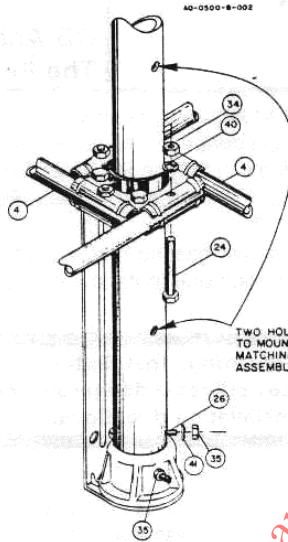
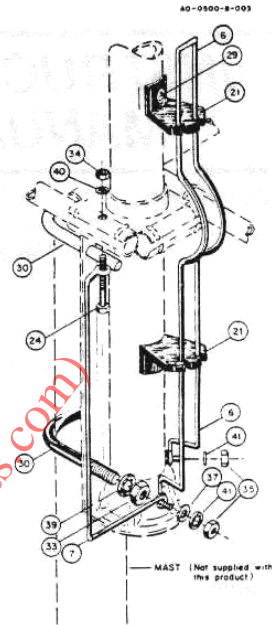

Figure 2
Figure 3
**NOTE:** Make certain the end of the M1 assembly (Item 13) with the two holes is down and aligned with the holes in the insulator (see Figure 2). Remember to point the two smaller holes (located 5 $\frac{1}{2}$ " and 13" from the bottom end) away from the base bracket. These will be used to attach the matching rod assembly (see Figure 3).
Fasten the M1 assembly to the insulator with the #10 x 1 $\frac{1}{4}$ " screw, see Figure 2, Item 26 and associated hardware, Items 35 and 41. Tighten SECURELY.
Referring to Figure 2, assemble the  $\frac{3}{8}$ " x 55" R1 tubes (Item 4) into brackets, align the holes and fasten with  $\frac{1}{4}$ " x 1 $\frac{1}{4}$ " screws, nuts and lockwashers (Items 24, 34 & 40). Do not tighten nuts.
Remove the two rod support insulators (Item 21) and the two #10 x  $\frac{3}{8}$ " Type T screws (Item 29) from the parts pack and attach them to the M1 assembly as shown in Figure 3.
Attach the matching rod and beta rod exactly as shown in Figure 3.
- ( ) Loosely assemble the 5/16" U-bolts on the bracket as shown in Figure 3.